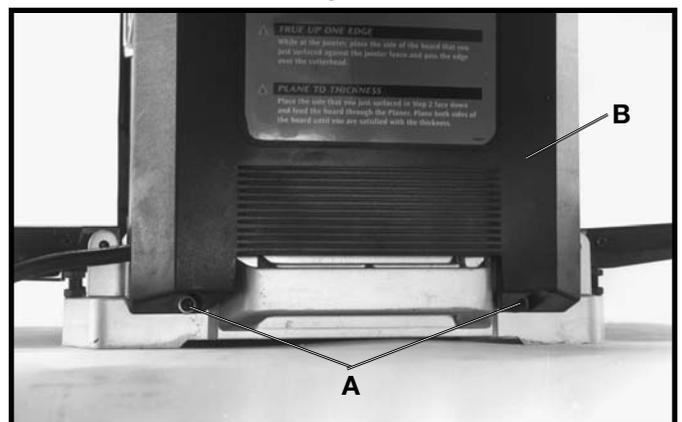

Fig. 41
2. Remove two screws (A) Fig. 41, located on bottom of left side cover (B) of planer, and remove left side cover.